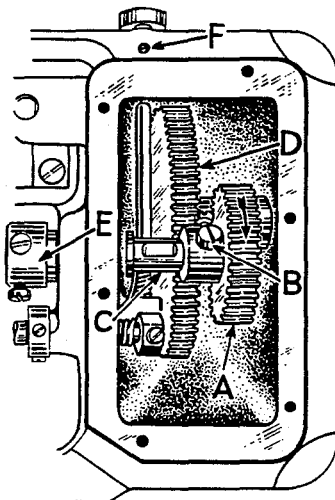

Fig. 24
To lock the stitch regulating plunger at any desired stitch length tilt the machine back against rest pin and tighten screw (F, Fig. 24) securely.
3. Loosen screws (B, Fig. 24) and slide gear (A) to the extreme right so it is out of mesh with the idler gear (D).
4. Looking through the stitch length indicator window on the top of the bed plate, rotate the lower main shaft (C) in the operating direction until the timing mark "-0-" appears between the pointers of the indicator window. Then rotate upper main shaft in the operating direction until the needle bar reaches its highest position. Carefully turn gear (A), without disturbing the lower main shaft setting, until the set screw lies directly above the flat in the lower main shaft. The gears should then be engaged as closely as possible in this position. While holding the gear and thrust collar (E) tightly between thumb and forefinger tighten set screw against flat in shaft securely, then tighten the second set screw and check to see that there is no end play in the shaft and that the machine revolves freely.